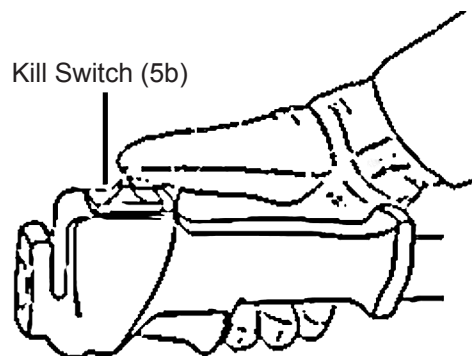

Figure 8
8. As soon as the Engine is running, check to make sure the Choke (76) is open. Squeeze the Speed Control (10b) briefly and let up. The Speed Control will revert to its original position, causing the Engine to idle. **Keep your thumb near the Kill Switch in the event the Auger Drill must be stopped immediately. (See Figure 8.)**